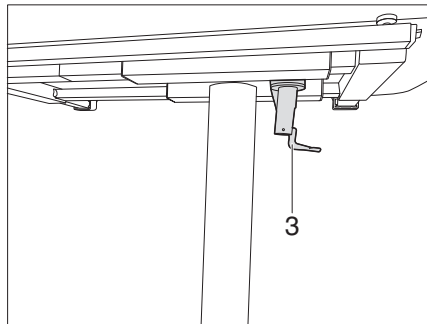

Fig. 115 Lock the folding table
- Swivel the catch lever (Fig. 115,3) to the right. The lift-off table is locked and can no longer be moved.